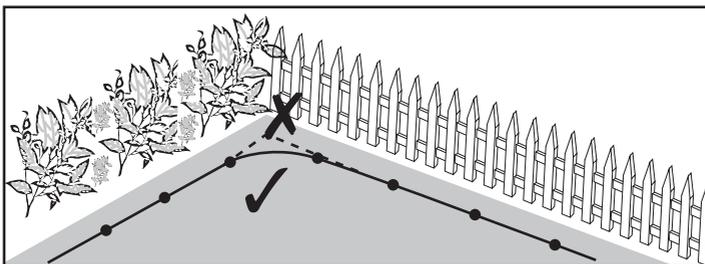

Fig. 17
- Lay the boundary wire (19) along the planned path, following the perimeter of the mowing area.
- Ensure that the boundary wire (19) avoids sharp bends or tight corners. It is generally more suitable to have gradual curves or smooth turns (Fig. 17).